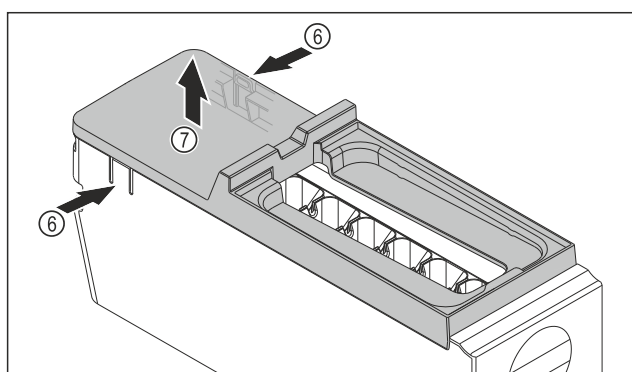

Fig. 132
- Removing the EasyTwist-Ice body cover: Push the tabs Fig. 132 (6) on both sides of the EasyTwist-Ice body with one hand.
- Use the other hand to remove the cover Fig. 132 (7) upwards.